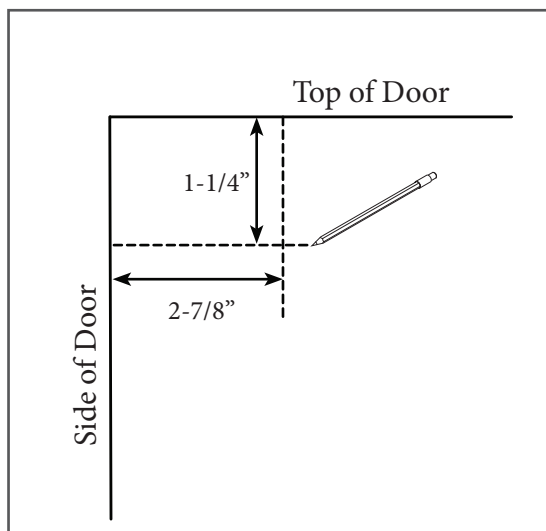

Figure 1
1. Lay the door face up on a smooth, level surface. Measure and mark $2\text{-}7/8\text{'}$ from the side edge of the door. Measure and mark $1\text{-}1/4\text{'}$ from the top edge of the door ensuring lines from both measurements intersect (Figure 1).